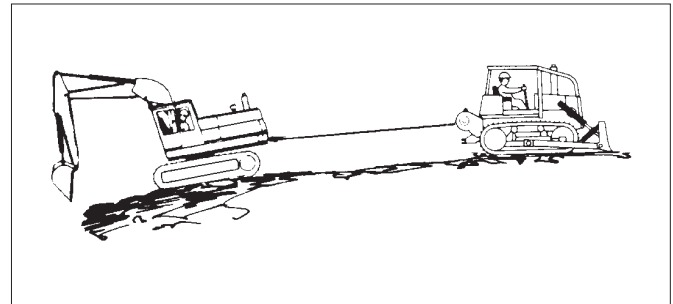

Figure 23 Moving a Disabled Vehicle (Step B)
B. A tractor or skidder equipped with a winch can be used to pull another vehicle from mud or other areas where it cannot move using only the drive wheels or tracks. See Figure 23. Use the following procedure: